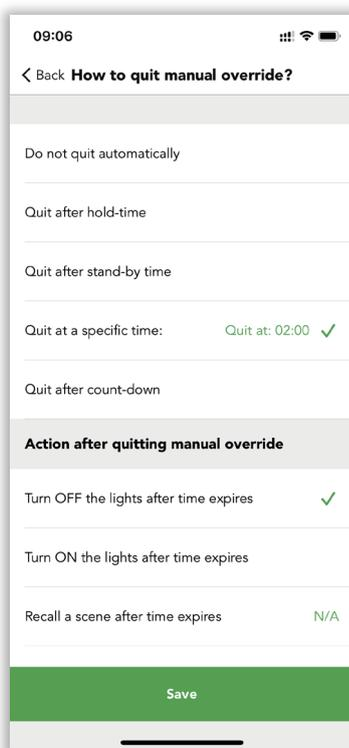

Figure 8.7 Quit mode-2
4. Quit after a specific time. Users can define a specific time to quit the manual control mode. E.g., 2:00am. (see figure 8.7)